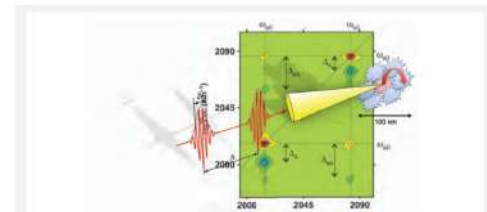

Fig 3
Fig. 3 RL characterization of the 3D ZrTe₂ and 2D ZrTe₂. (3a,c) shows the emission spectra for low energy and over the threshold for the 3D and 2D case respectively. (3a,d) shows FWHM and peak intensity of the emitted spectra as a function of the excitation energy for the 3D and 2D case respectively.
Fig. 3 OCT images of the adhesion process on dentin using DBAs prepared with gold nanoparticles. The adhesion process regions are identified: adhesive layer (AL), hybrid layer (HL), and resin tags (arrows).
Figure 3. Temperature sensing during photopolymerization process. a) Temperature rise monitoring (red dots) of the cement/RENPs photopolymerization upon treating with blue light. Black dots are the control data obtained without blue illumination. b) Temperature rise monitoring (red dots) of the cement/RENPs photopolymerization under veneer upon treating with blue light. Black dots are the control data obtained without blue illumination.